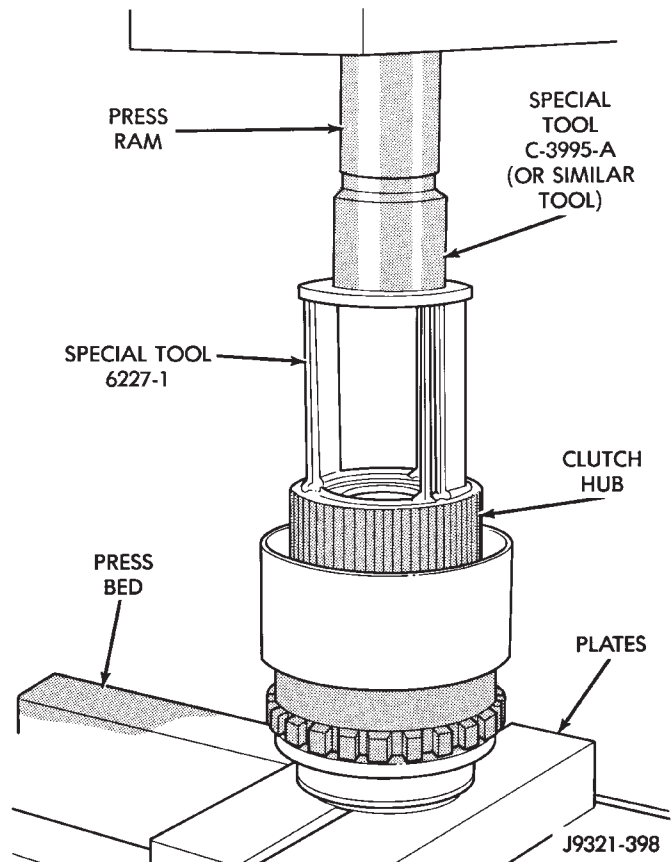

Fig. 207 Geartrain Mounted In Shop Press
(1) Mount geartrain assembly in shop press (Fig. 207).
(2) Position Compressor Tool 6227-1 on clutch hub (Fig. 207). Support output shaft flange with steel press plates as shown and center assembly under press ram.
(3) Apply press pressure slowly. Compress hub and spring far enough to expose clutch hub retaining ring and relieve spring pressure on clutch pack snap ring (Fig. 207).